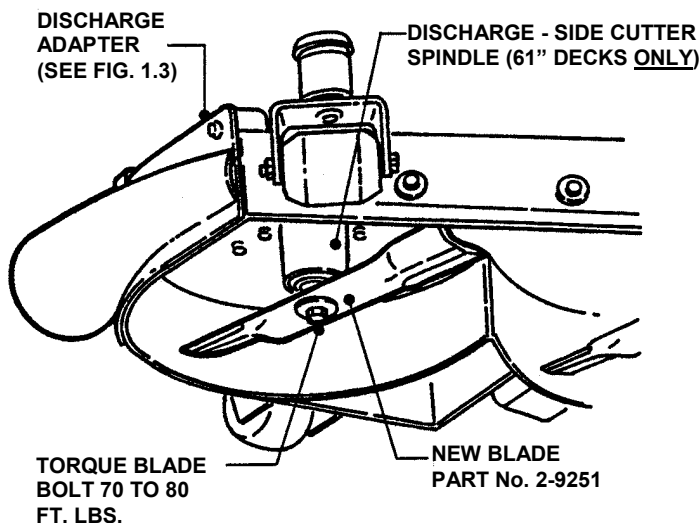

FIGURE 1.4
D. Use blade hardware previously removed to install new kit blade to discharge-side cutter spindle. Refer to Figure 1.4.
C. Remove discharge-side cutter blade and store for later use. See Figure 1.4.